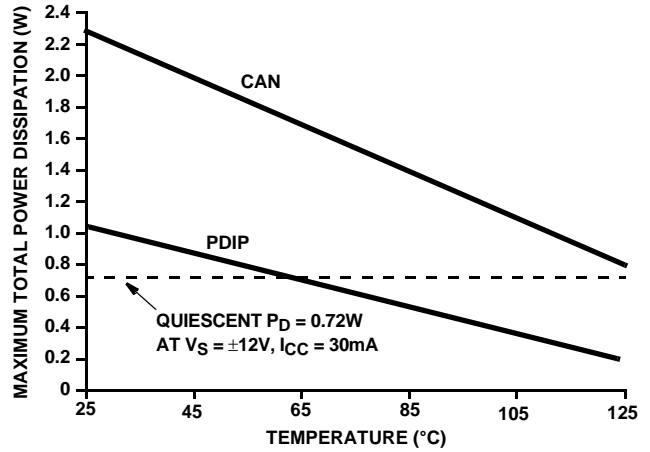

FIGURE 5. MAXIMUM POWER DISSIPATION vs TEMPERATURE
- Maximum power dissipation, including load conditions, must be designed to maintain the maximum junction temperature below 175°C for the metal can package, and below 150°C for the plastic packages (See Figure 5.).
- The maximum operating temperature may have to be derated depending on the output load condition. See Figure 5 for more information.
Figure 5 is based on: